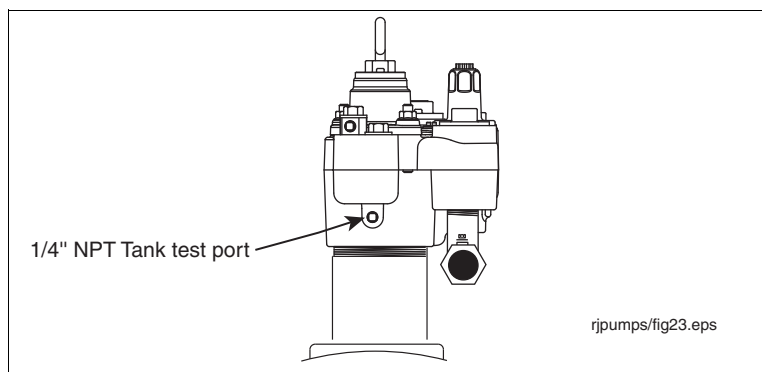

Figure 39. Tank Test Port On Manifold
2. Remove and save the 1/4 " NPT tank test port plug and attach tank testing equipment (see Figure 39).